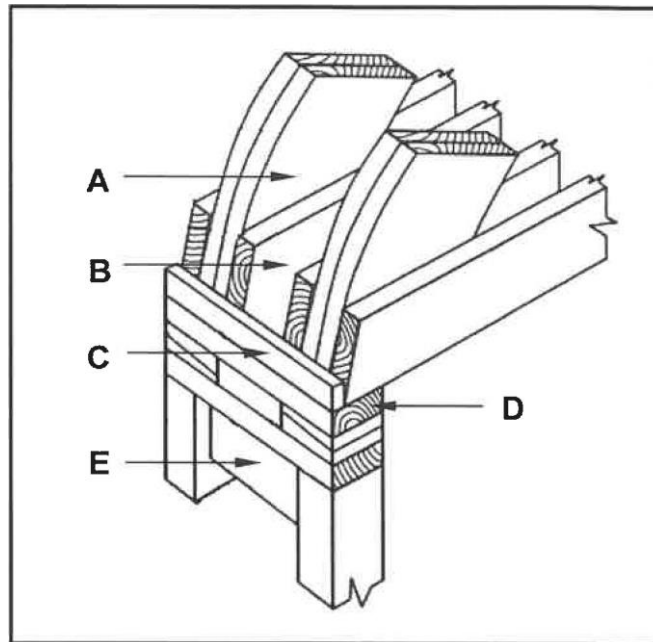

FIGURE 5.1
- 5.1 FIGURE 5.1 below shows the pictorial view of the construction details at the base of a centre. Study the picture and answer the questions that follow.